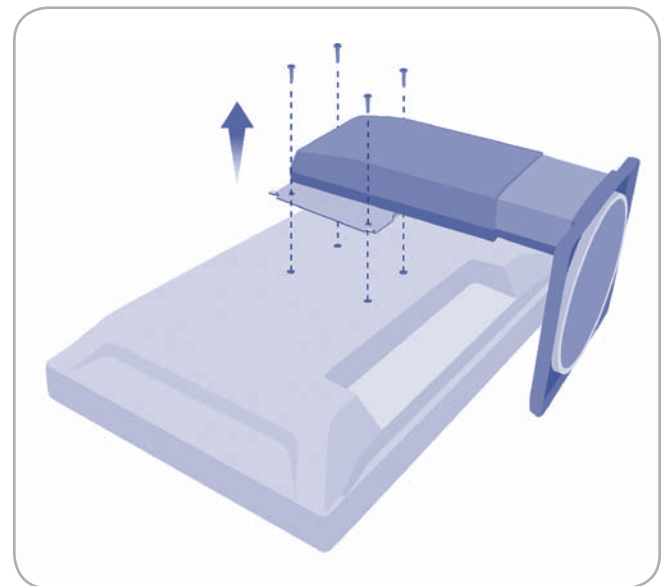

Figure 2.5-A
3. Remove the four mounting screws from the base (Figure 2.5-A) and then remove the base.